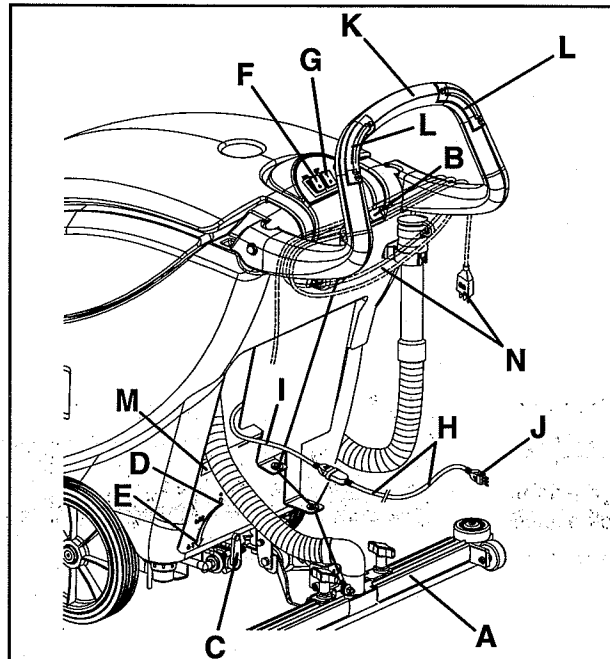

Figure 8
Connect the power supply cable (I) to the extension (H, Fig. 8) supplied. Connect the extension plug (J) to the electrical mains.
Before connecting the machine to the electrical mains, make sure that the frequency and voltage shown in the serial number plate/technical data (M, Fig. 8) match the mains voltage.
3. Lower the squeegee (A, Fig. 8) by pushing the lever (B) downwards.
4. Turn the solution flow control lever (C, Fig. 8) to one of the following positions, according to the type of cleaning to be carried out:
- **ECO system:** When the lever (C, Fig. 8) is in the “ECO” position (D), the machine works in a special condition of programmed water “economy” usage; as the water flow is set and constant, the machine can work with a cleaning time of 70-80 minutes [0.08 gal/min (0.3 liters/min)].
- **Variable system:** When the lever is turned to the left (variable flow), it is possible to increase the capacity up to 0.26 gal/min (1 liter/min) (E, Fig. 8).
5. Turn the switches (F and G, Fig. 8) to the “I” position.
6. While keeping both hands on the handlebar (K, Fig. 8), start the machine by pressing one or both the activation switches (L).
7. Release the switches (L, Fig. 8).
8. Turn the switches (F and G, Fig. 8) to the “0” position.
9. Disconnect the power supply cable plug (J) from the electrical mains. If necessary, roll up the power supply cable (H, Fig. 8) into position (N).
10. Lift the squeegee by pushing the lever (B, Fig. 8) completely upwards.